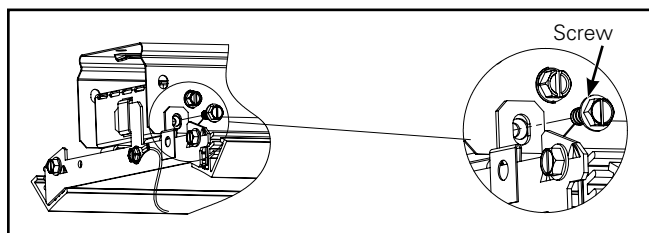

Figure 25.
7. Secure the waveguide assembly to channel assembly with screws provided, (Figure 25.) (One side of the fixture only) (Use a long bit or right angle tool).